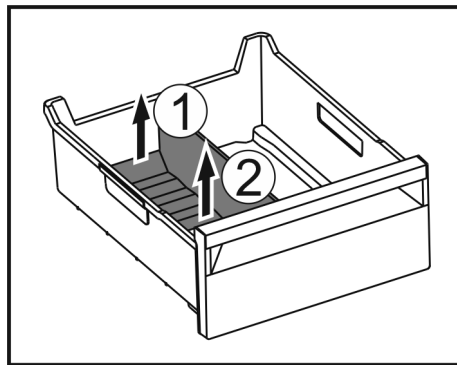

Fig. 153
- ▶ Lift the rear part of the ice compartment divider. Fig. 153 (1)
- ▶ Remove the ice compartment divider upwards. Fig. 153 (2)